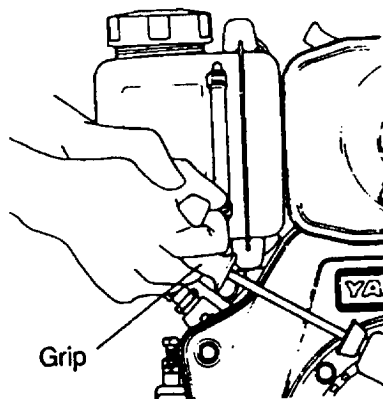

Figure 6-83 Starting (3)-3
- c) Grip the recoil starter handle with both hands and give a good, strong pull (see Figure 6-83).